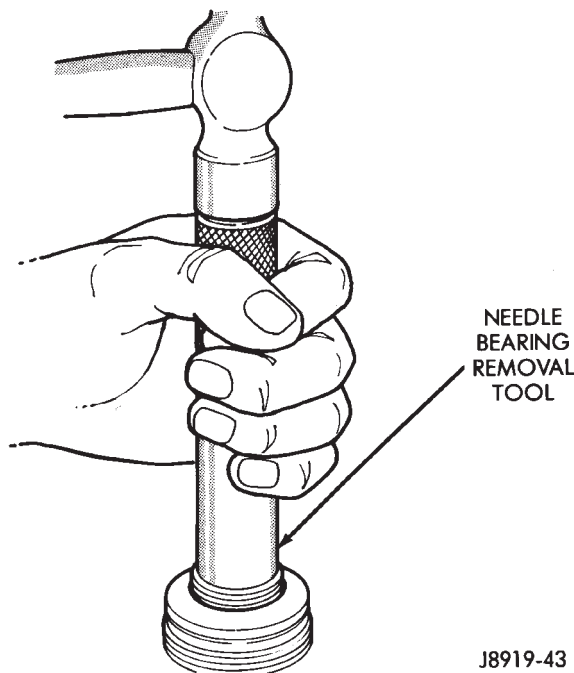

Fig. 21 Needle Bearing Removal
(5) Remove O-ring seal.
(6) Remove retaining snap ring.
(7) Remove needle bearing, dust seal and lip seal with an appropriate tool (Fig. 21).